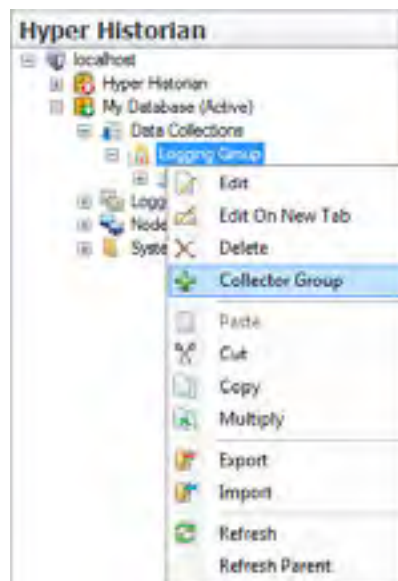

Figure L3.3 - Adding a Collector Group
1. Right-click on the new Logging Group and select + **Collector Group**, as shown in Figure L3.3.